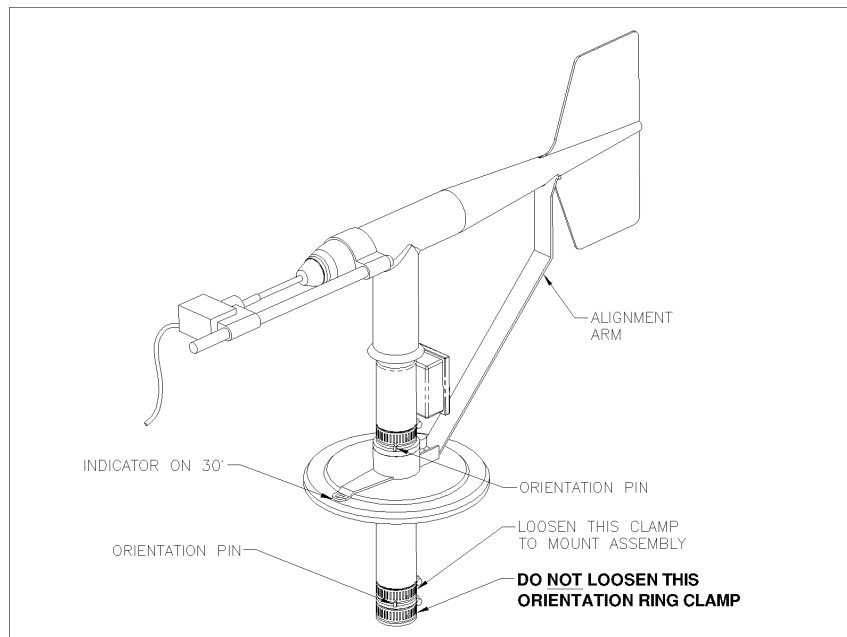

Figure 1-27. Wind Monitor – Wind Direction Test
**DO NOT LOOSEN BAND CLAMP (See Figure 1-27) SECURING ORIENTATION RING TO MOUNTING POST (BOTTOM-MOST CLAMP). Moving orientation ring results in losing Wind Monitor alignment to true south, causing all wind direction readings to be invalid. If orientation ring is moved, Wind Monitor must be realigned.**
- b. Position Wind Monitor on Vane Angle Fixture such that (south) indexing pin on fixture orientation ring is engaged in notch on mounting post assembly (*notch ends up under the junction box*). This ensures continued alignment to true south during the test procedure (see Figure 1-27).